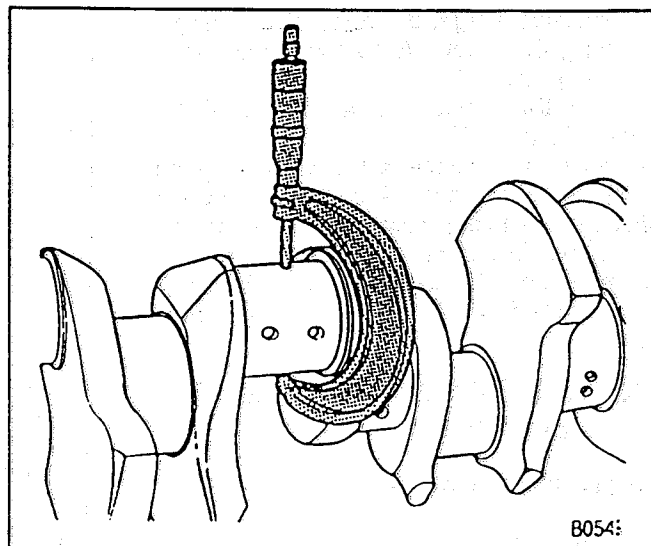

Figure 66—Measuring the Crankshaft Journals
Measure (Figures 66 and 67)
- Main bearing and connecting rod journal diameters (figure 66). Compare with "Engine Specifications." Grind or replace the crankshaft if necessary.
- Main bearing and connecting rod journals for taper and out-of-round (figure 66). If the journals are tapered or out-of-round more than 0.0254 mm (0.001 inch), grind or replace the crankshaft.